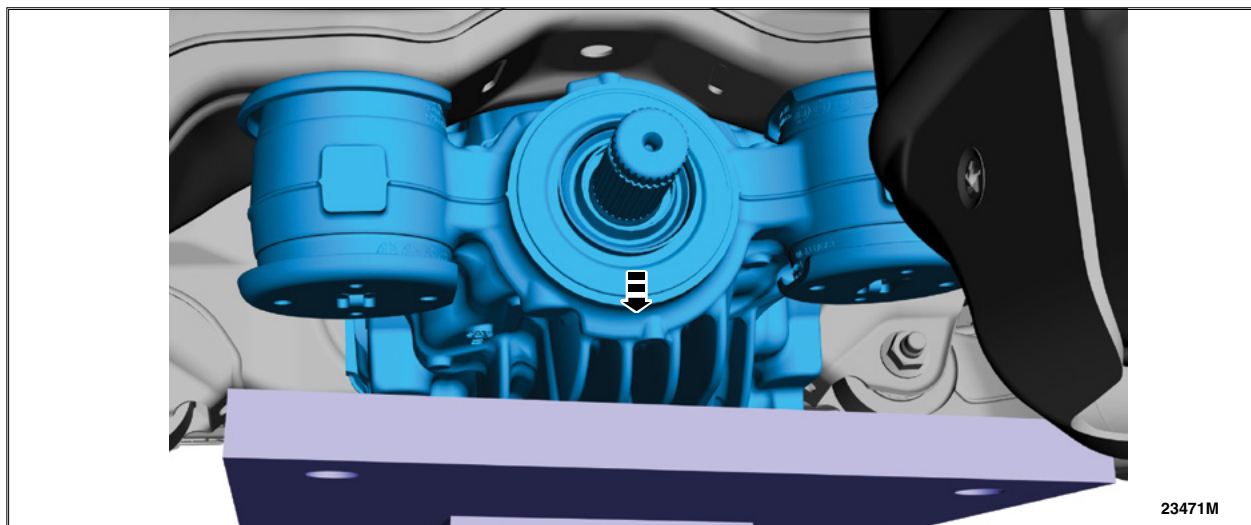

FIGURE 15
21. Gently lower down the transmission jack and remove the rear axle assembly. See Figure 15.